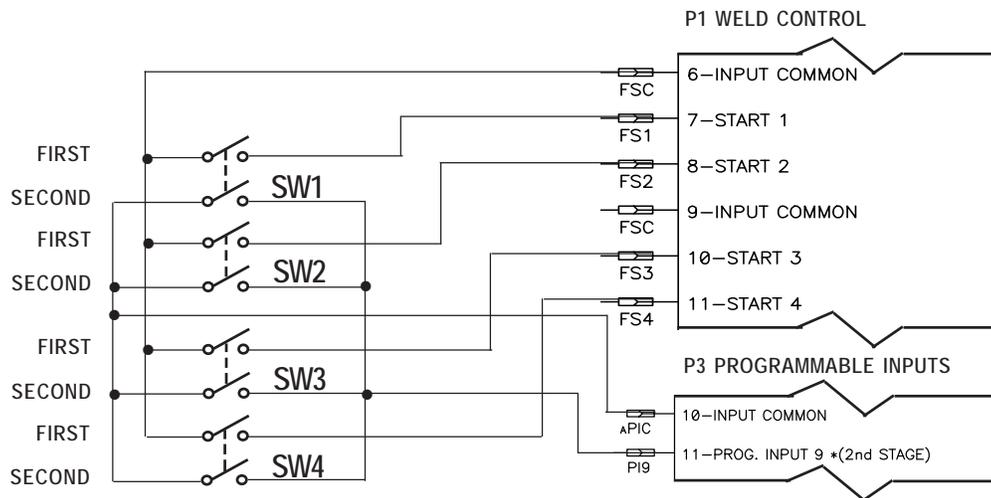

Figure 4-10. Multiple two-stage foot switches connection diagram
1. The foot switches are connected to connectors P1 and P3 of control as shown in Figure 4-10. One (1) to four (4) two-stage foot switches can be used. Activating foot switches SW1 through SW4 will initiate welding sequence in the SCHEDULE associated with activated switch.